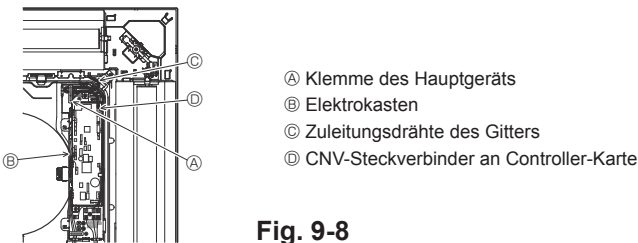

Fig. 9-8
9.4.4. Elektroanschlüsse (Fig. 9-8)